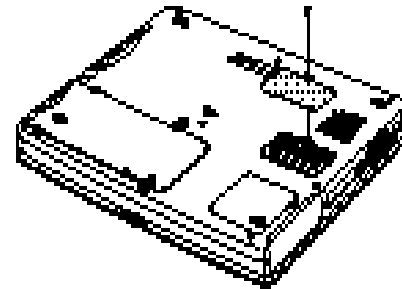

Figure 22. Removing the Memory Module Compartment Door
2. Using a screwdriver, remove the screw that holds the memory-module compartment door in place (Figure 22).